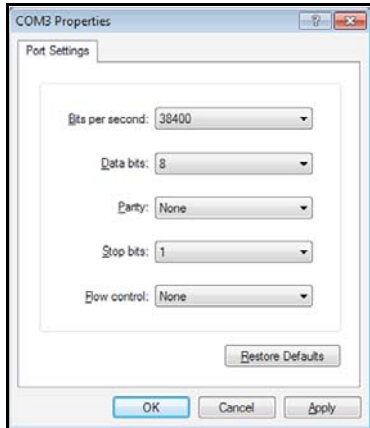

Figure 97: COM Properties
2. Start HyperTerminal and set up the communication link to match the Com port and RS232 settings of the PT878 (see Figure 97 below).